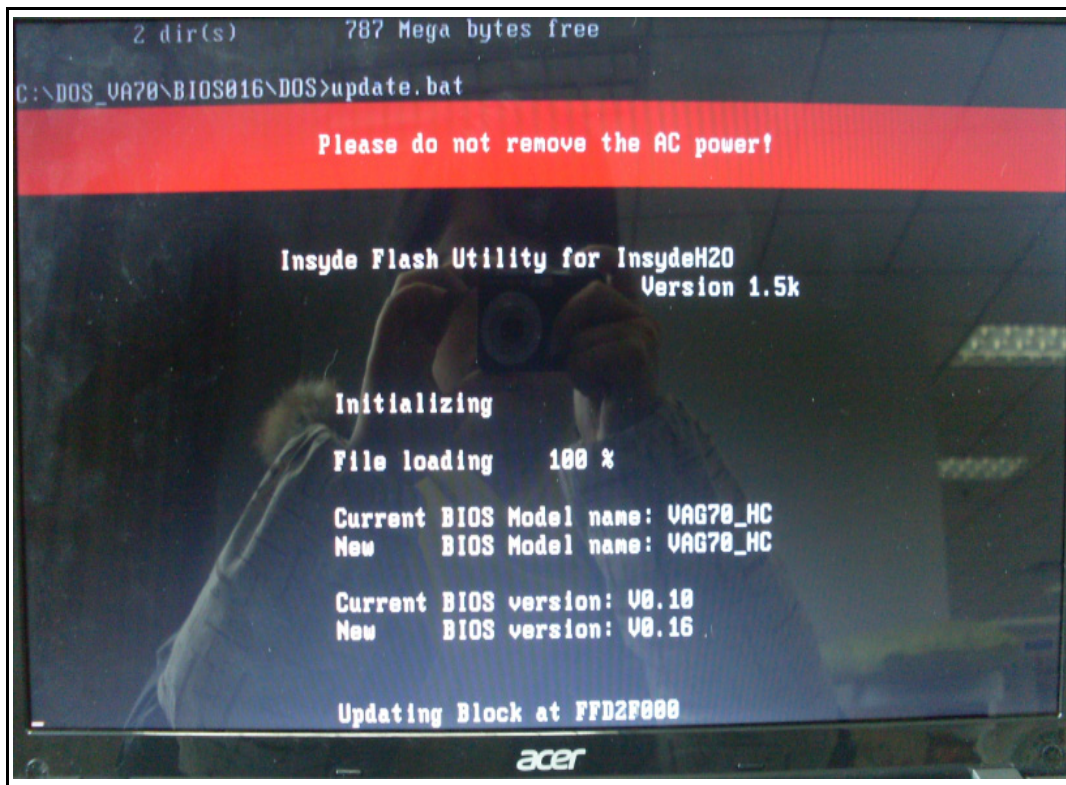

Figure 2-13. DOS Flash
3. Execute the *< UPDATE.BAT >* batch file to update BIOS. The flash process begins as shown in Figure 2-13.